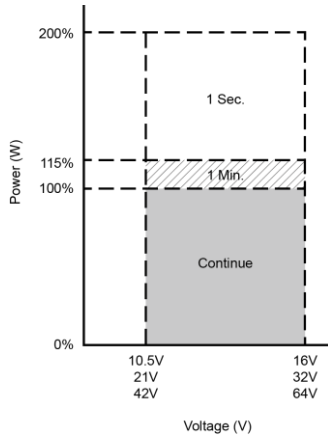

Figure 3. SE400 voltage performance
- ③ Temperature performance : Please refer to Figure 3